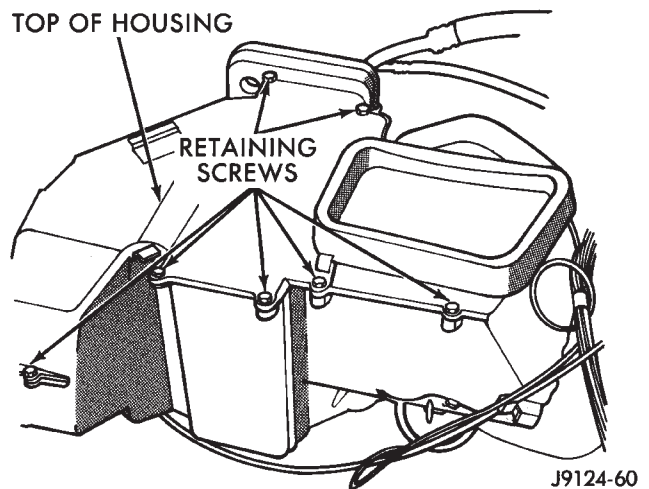

Fig. 24 Top of Housing
- (1) Remove the evaporator/blower housing.
- (2) Remove the top housing retaining screws. Remove the top of the evaporator housing (Fig. 24).